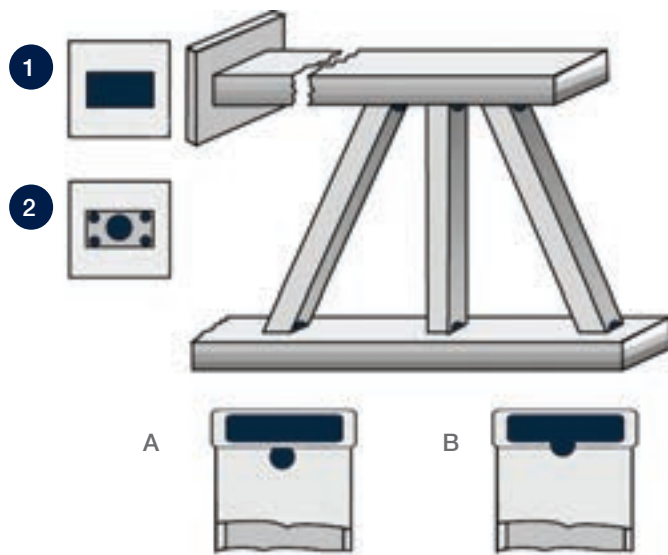

Figure 22: Holes at either end of the rectangular tube trusses should be completely open
## RECTANGULAR TUBE TRUSS (FIGURE 22)
Examples A and B in Figure 22 show proper hole locations for the vertical members. Each vertical member should have two holes at each end, 180° apart in line with the horizontal members. Preferably, the size of the holes should be equal, and the combined area of the two holes at either end should be at least 30% of the cross-sectional area.
2. From Figure 22, if  $H + W = 24"$  (61 cm) or larger, the area of the hole, plus clips, should equal 25% of the area of the tube ( $H \times W$ ).